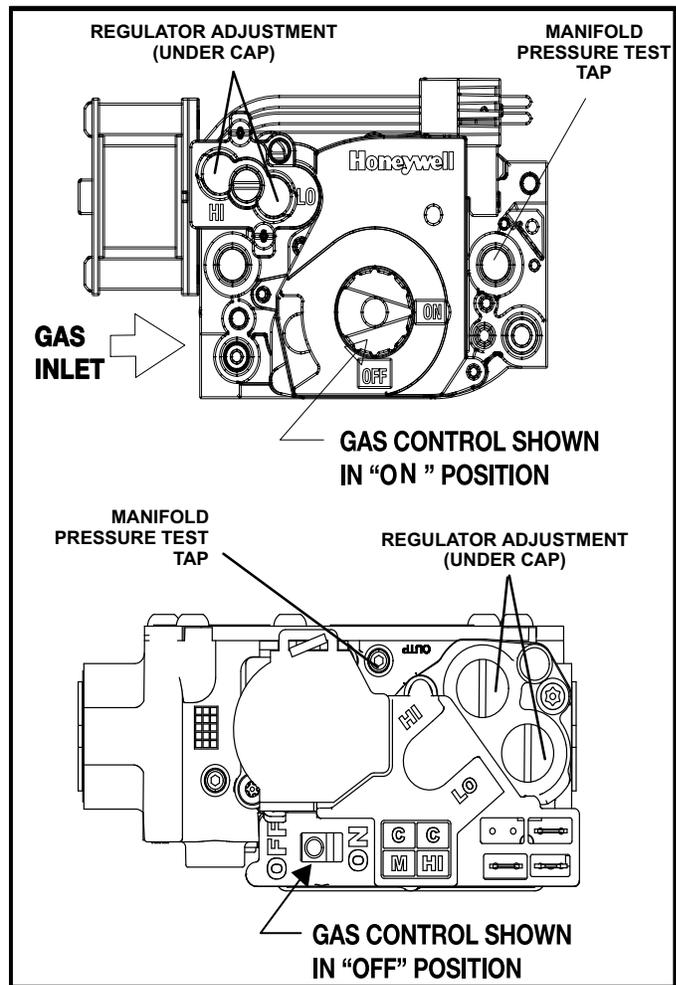

Figure 12
- 3 - Turn the gas valve knob or move the switch to the ON position. Refer to figure 12.
Measure Manifold Pressure: Shut off gas supply to the unit. Remove plug from pressure tap (see figure 12). Connect manometer or gauge to the proper pressure tap, then turn on the gas supply.
Adjust Manifold Pressure: The gas valve has separate adjusting screws for first stage (LO) and second stage (HI) (see figure 12). Turn the adjusting screws clockwise to increase pressure and input; turn counterclockwise to decrease pressure and input. The pressure regulator adjustment is sensitive. One turn of the adjusting screw results in a large change in manifold pressure.